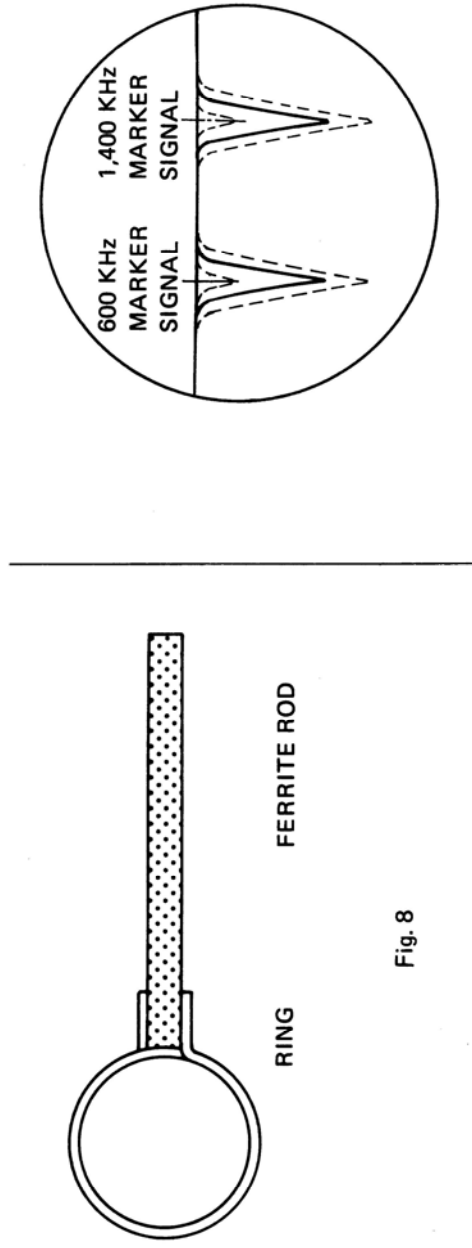
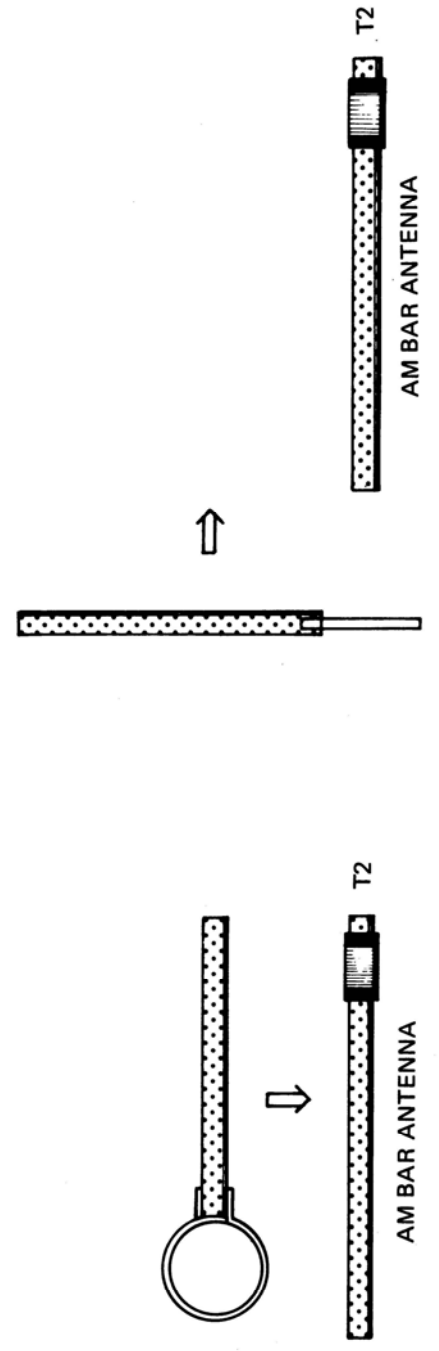

Fig. 8
Fig. 9
4. To check tracking errors, use an apparatus made of ferrite rod and copper wire. (See Fig. 8). Move it toward the AM bar antenna coil gradually and check waveform on oscilloscope becoming smaller. If the waveform becomes larger, repeat adjustment of steps 3 and 4. (See Fig. 9)